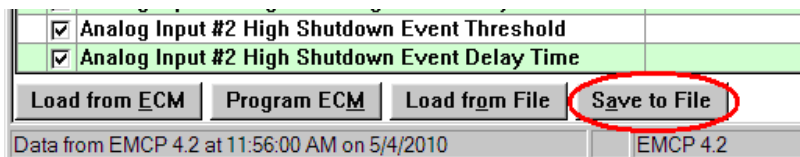

Figure 15.4 – Save to File
7. After any selection changes are completed, click “Save to File” from the bottom of the ECM Replacement screen to save the file. See Figure 15.4. Make sure to note where the file is stored.